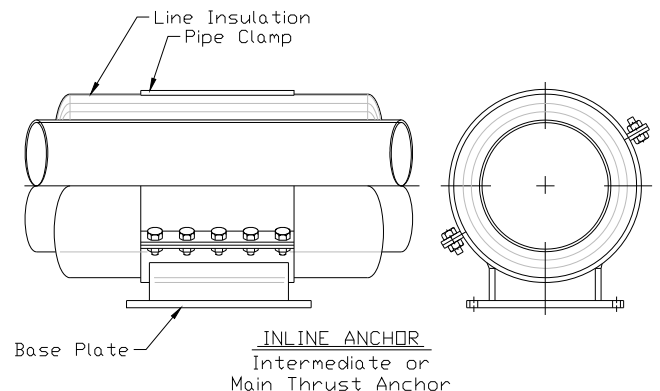

Figure 4
**INLINE ANCHOR** – The inline anchor is similar to the traditional pipe clamp anchor that most designers are accustomed to using, see figure 4. The primary difference is